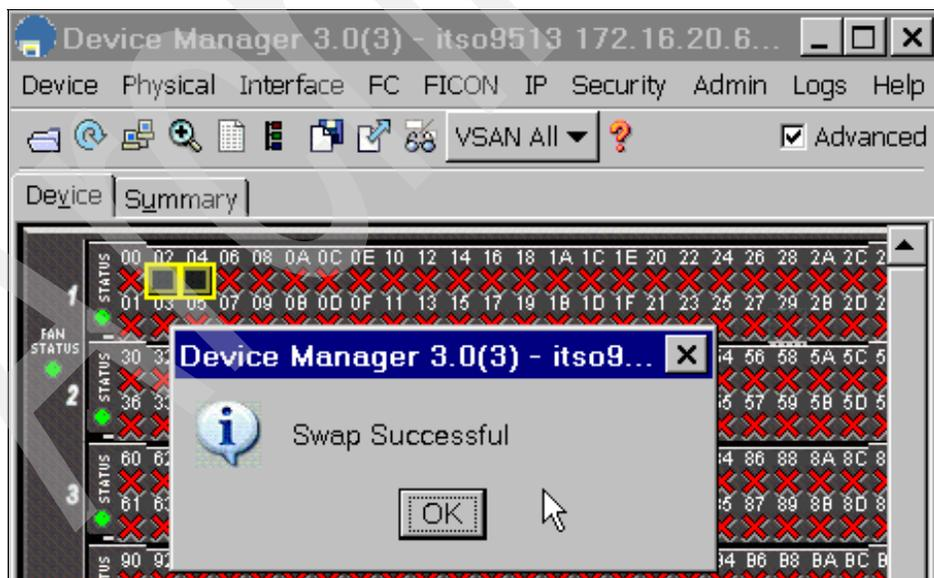

Figure 84 Port swap successful message
4. Click **OK** to the swap success message (Figure 84).